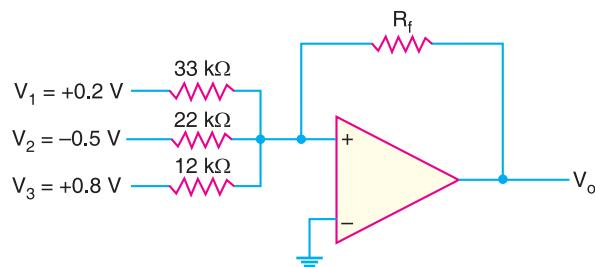

Fig. 25.106
13. Calculate the output voltage of the circuit in Fig. 25.106 for $R_f = 68 \text{ k}\Omega$. [V_o = -3.39 \text{ V}]